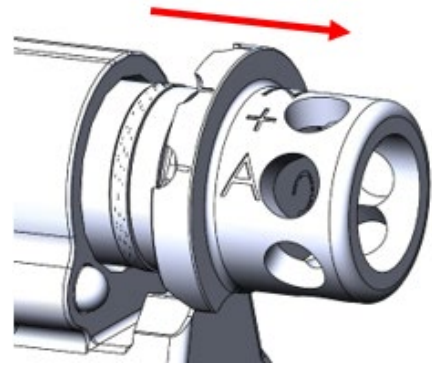

Figure 53: Removing the Gas Valve
1. Rotate the gas valve 180 degrees to where the "A" firing condition rib is at the 12 o'clock position, then pull the gas valve out of the gas block. It may be necessary to depress the detent to allow rotation. Use a punch tool if necessary. (Figure 53)